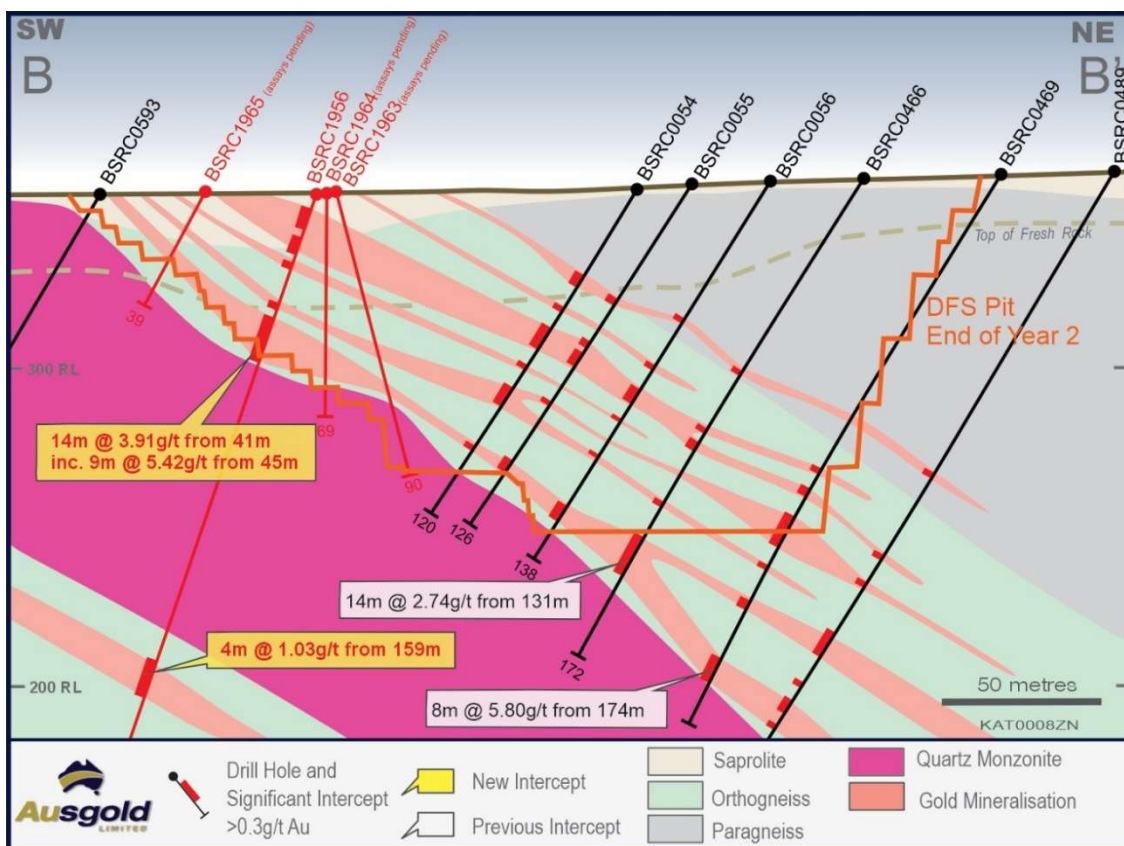

Figure 4 – Cross-section B-B' across the Jinkas-White Dam Lodes with Resource Drilling and End of Year 2 pit
- **14m @ 3.91g/t from 41m including 9m @ 5.42g/t from 45m in BSRC1956 (Jinkas) (Figure 4)**